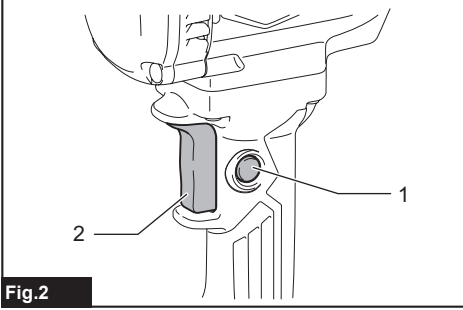

Fig.2
► Fig.2: 1. Lock button 2. Switch trigger